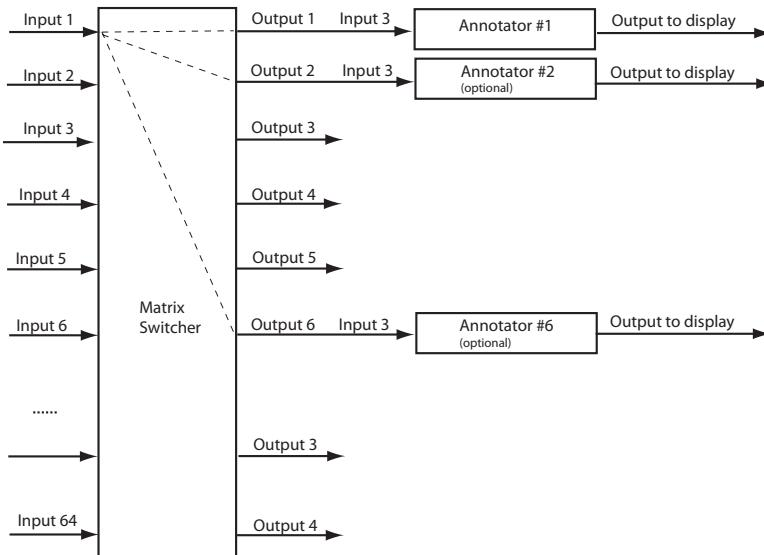

Figure 17. Multiple Annotators Connected to a Matrix Switcher
2. Tie input 1 of the matrix switcher to whichever matrix switcher output is connected to input 3 of the Annotator (see figure 17).